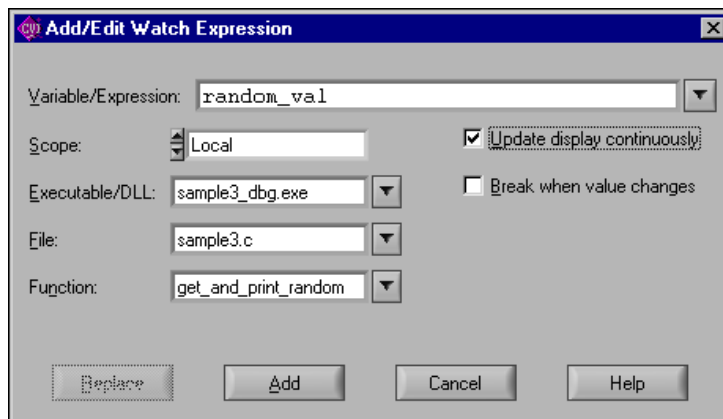

Figure 4-4. Add/Edit Watch Expression Dialog Box
5. Select **Options»Add Watch Expression** to indicate that you want to assign the `random_val` variable to the Watch window. The dialog box shown in Figure 4-4 appears.